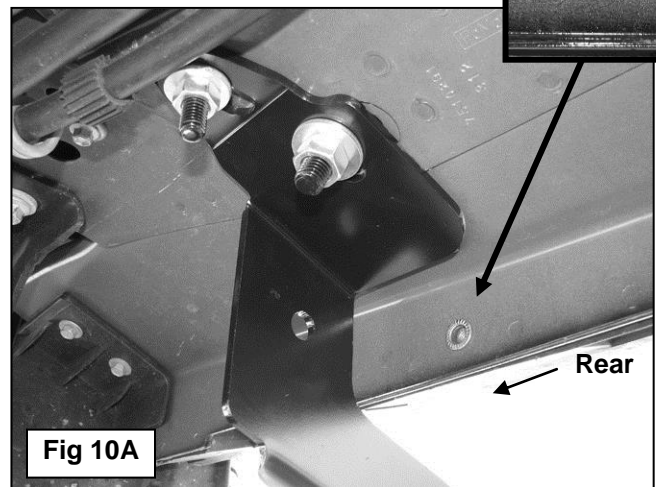

Fig 10A
10. Remove the "L" Support Bracket. Carefully drill this location with a 7/16" drill bit, **(Figure 10A)**. **IMPORTANT!** Be very careful and drill slowly through the pinch weld to avoid damaging the outer rocker panel cover. Any cutting or drilling tool may break or shatter. Government regulations require safety glasses & equipment at all times when cutting or drilling.